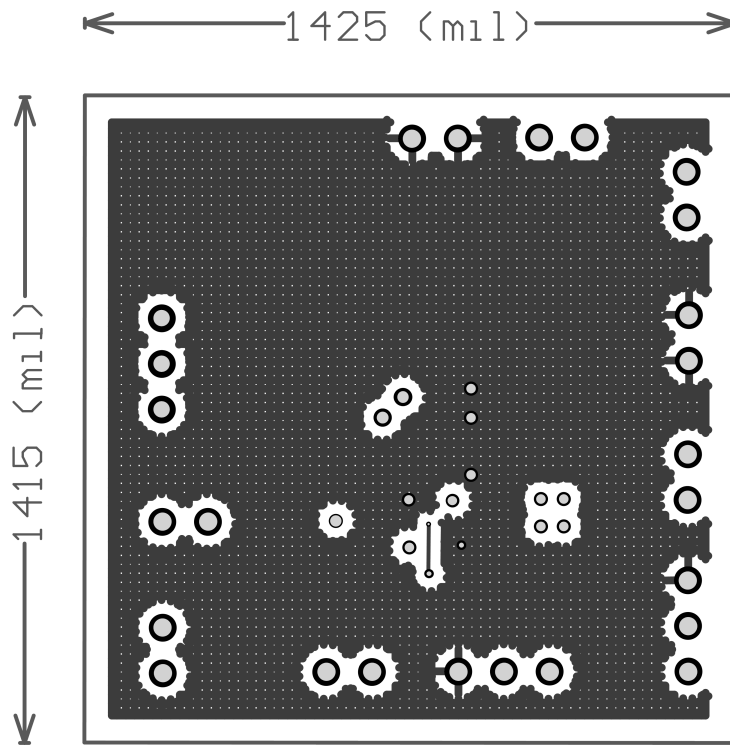

FIGURE 2. LM3508 Evaluation Board Layout Mid Layer 1
- EN is a 3-position jumper (see bottom right jumper in figure 2). The middle pin connects to EN of the device. The top pin of the EN header connects to PGND (device disabled) and the bottom pin connects to VIN (device enabled).
- DIM is a 3-position header (see figure 2). The middle pin connects to DIM of the LM3508. The left pin of the DIM header connects to PGND (current source off). The right pin connects to VIN (current source on with max LED current of 20mA). Drive DIM with a PWM waveform ($V_H > 1.1V$, $V_L < 0.5V$) at up to 100kHz to adjust the LED brightness.
- 2 3 4 LEDs is a 3-position header (see figure 2). Leave open to configure the board for 4 series LEDs. Place a jumper